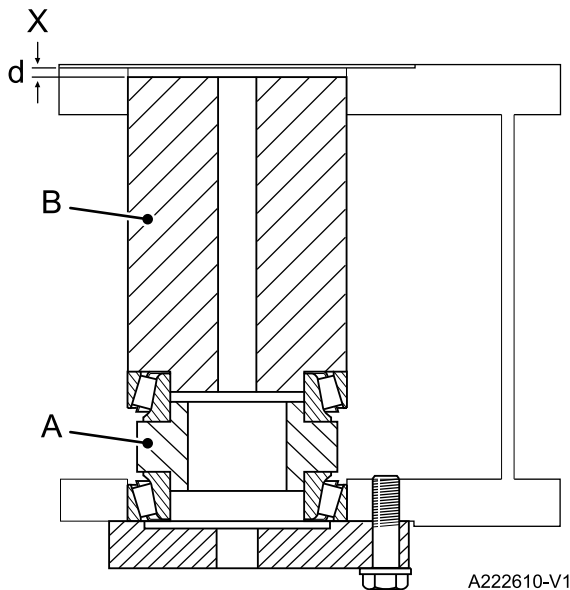

Fig 15.
- 3 Put the dummy-boss **A** into the bottom bearing. ⇒ Fig 15. (□ B-9).